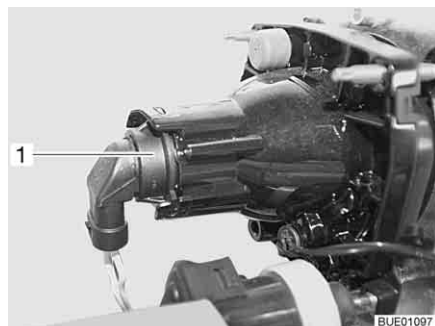

Fig. 259 Low beam/main beam/parking light
- Put your hand behind the lamp holder (Fig. 259,1).